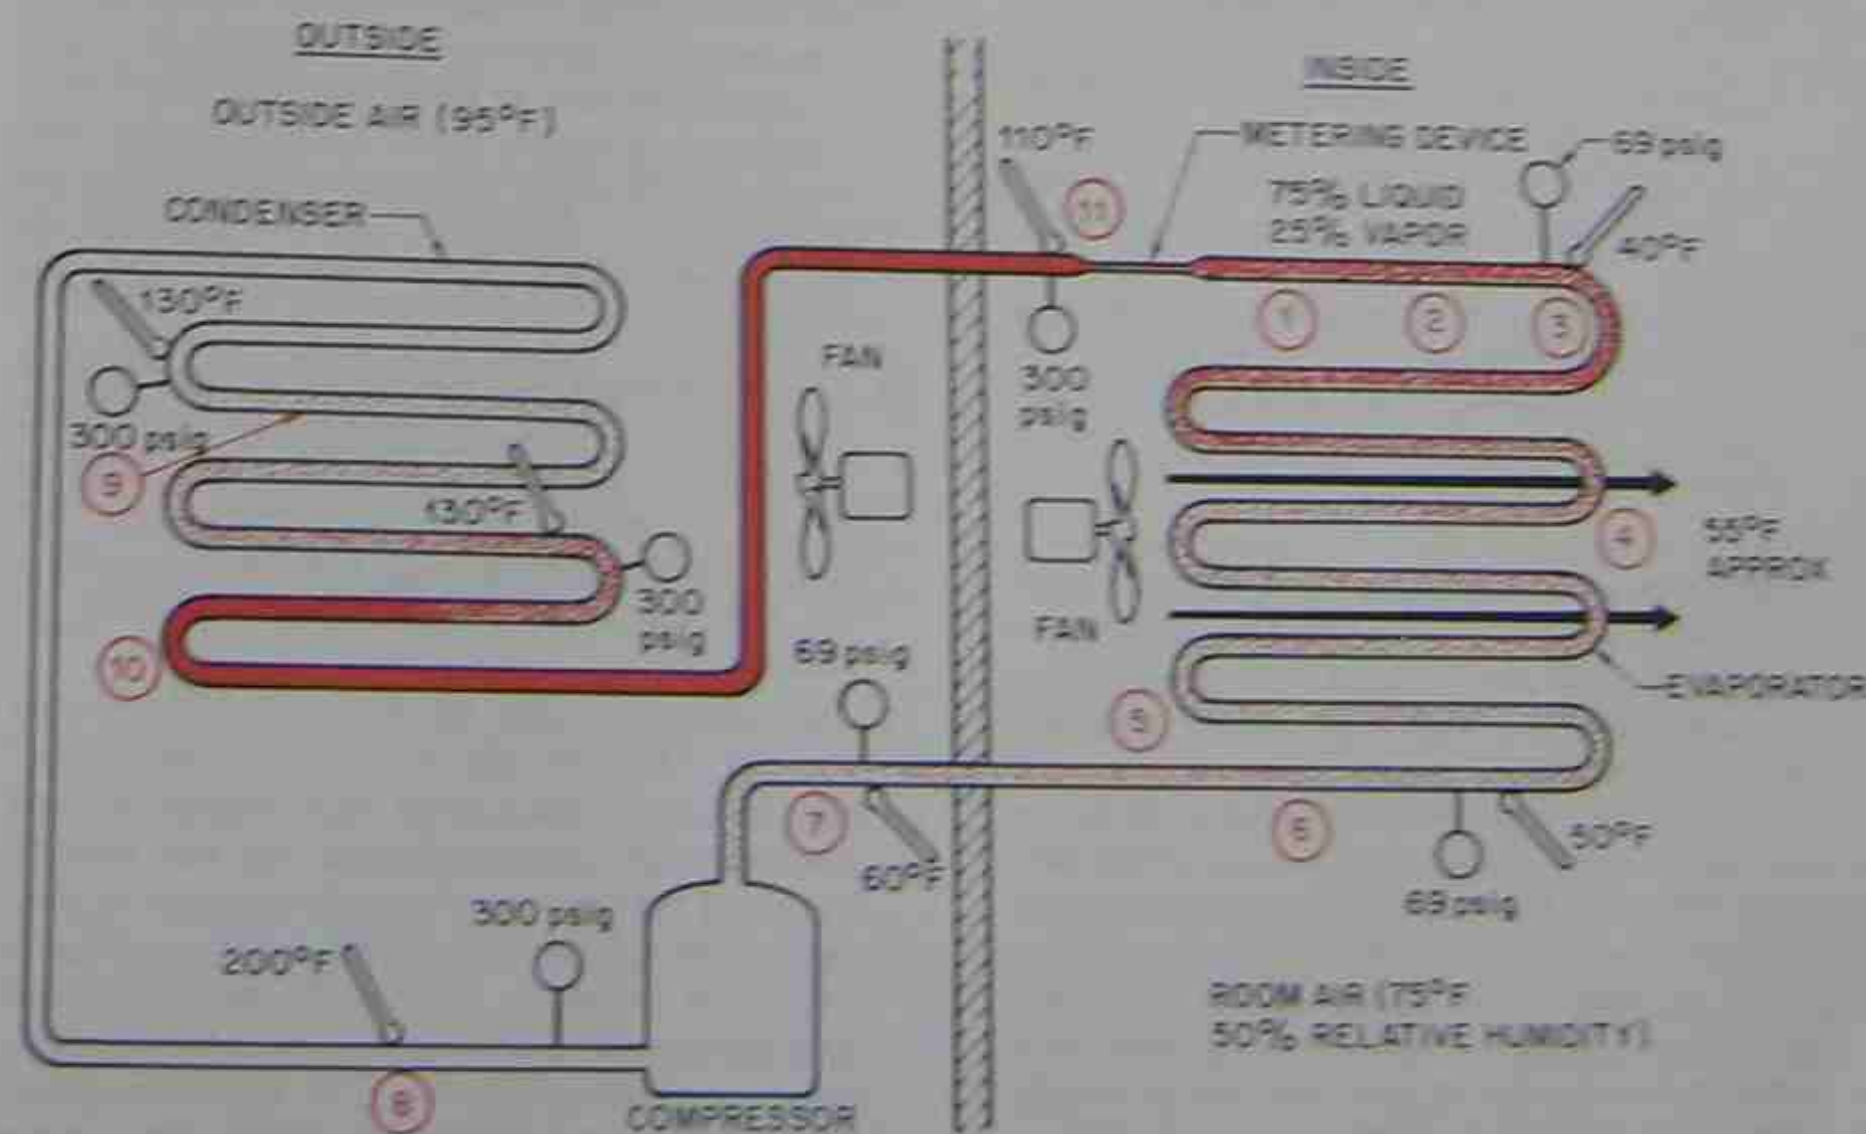

Figure 3-38. Typical air conditioning.
Remember that part of the system is inside the house and part of the system is outside the house. We now describe the complete refrigeration cycle. The numbers in the description correspond to those in Figure 3-38.
6. Pure vapor now exists that is normally superheated about 10°F above the saturation point. Examine the line in Figure 3-38 at this point and you will see that the temperature is about 50°F.